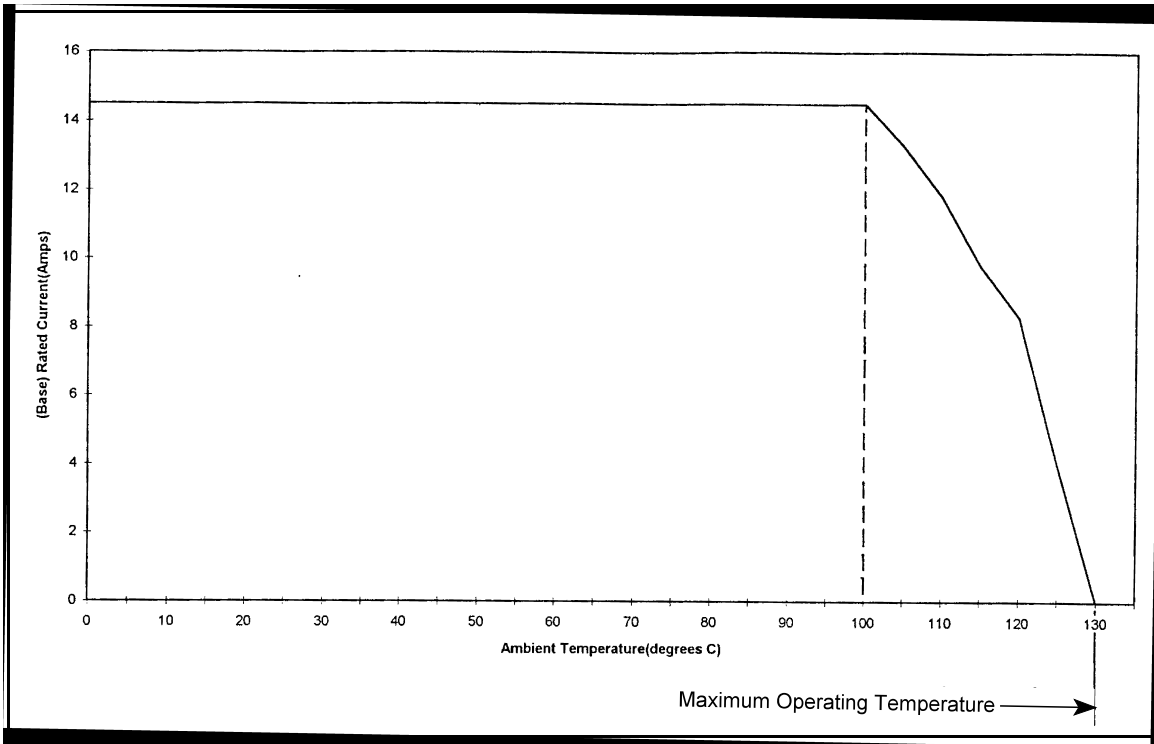

Figure 4A
To determine acceptable current carrying capacity for percentage connector loading and wire gage indicated, use Multiplication Factor (F) from above chart and multiply it times Base Rated Current for a single circuit at maximum ambient operating temperature as shown in Figure 4A.